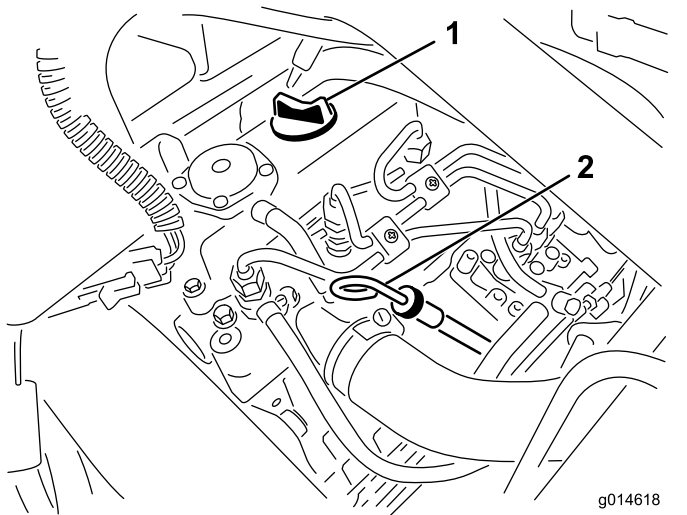

Figure 32
- Remove the dipstick and wipe it with a clean rag (Figure 32).